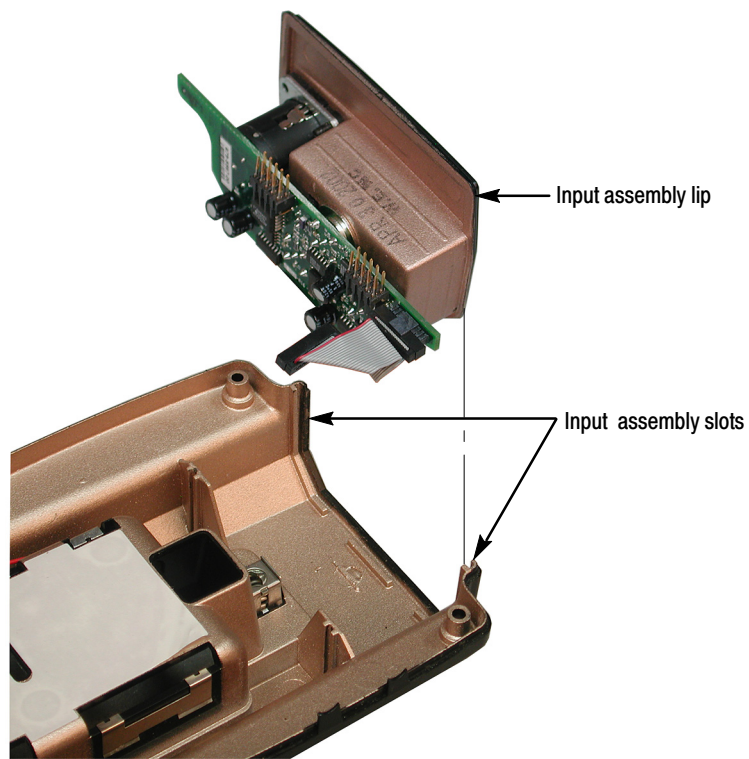

Figure 6: Pull Input assembly off bottom cover
2. Grasp the plastic extended lip of the Input assembly with the other hand and pull the Input assembly upward and out of the two slots in the bottom cover (see Figure 6).
Align the edges of the Input assembly with the two slots in the bottom cover (see Figure 6) and slide the Input assembly down until it is fully installed in its two slots. The electrical gasket on the bottom cover will cause the assembly to spring back from the bottom cover.